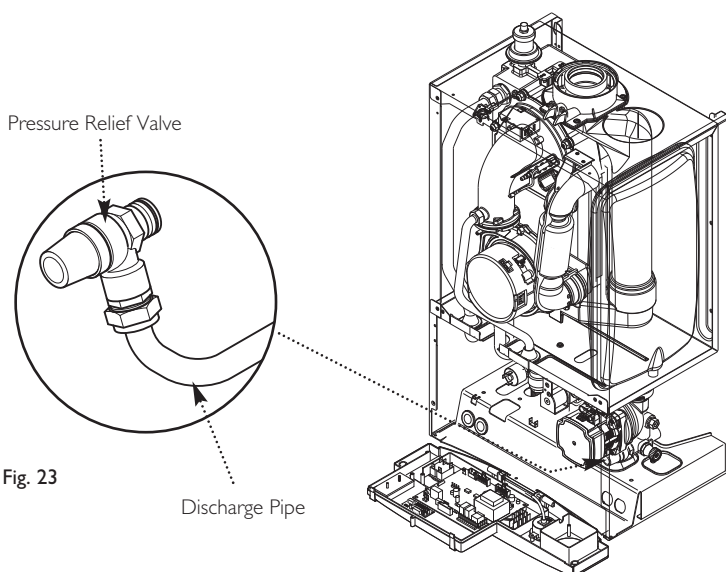

Fig. 23
9.4 Fitting the Safety Pressure Relief Discharge Pipe (Fig. 23)